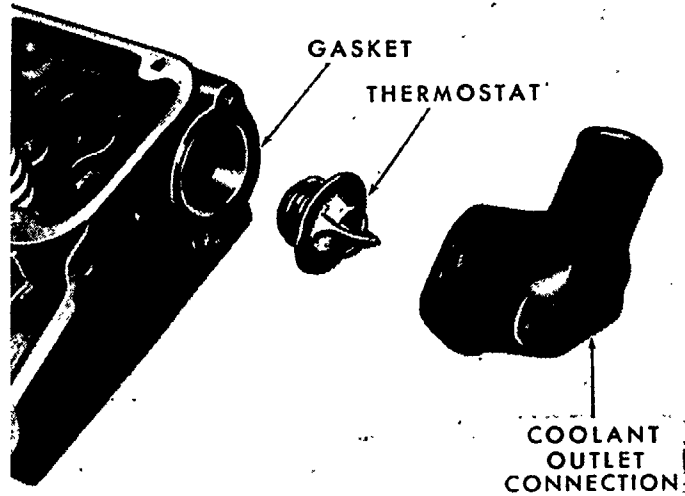

Figure 9
1. On diesel, LP gas and 4-cylinder gasoline engines, remove the two bolts that attach the water outlet connection to the cylinder head. Remove the connection, thermostat, and gasket, as shown in Figure 9.